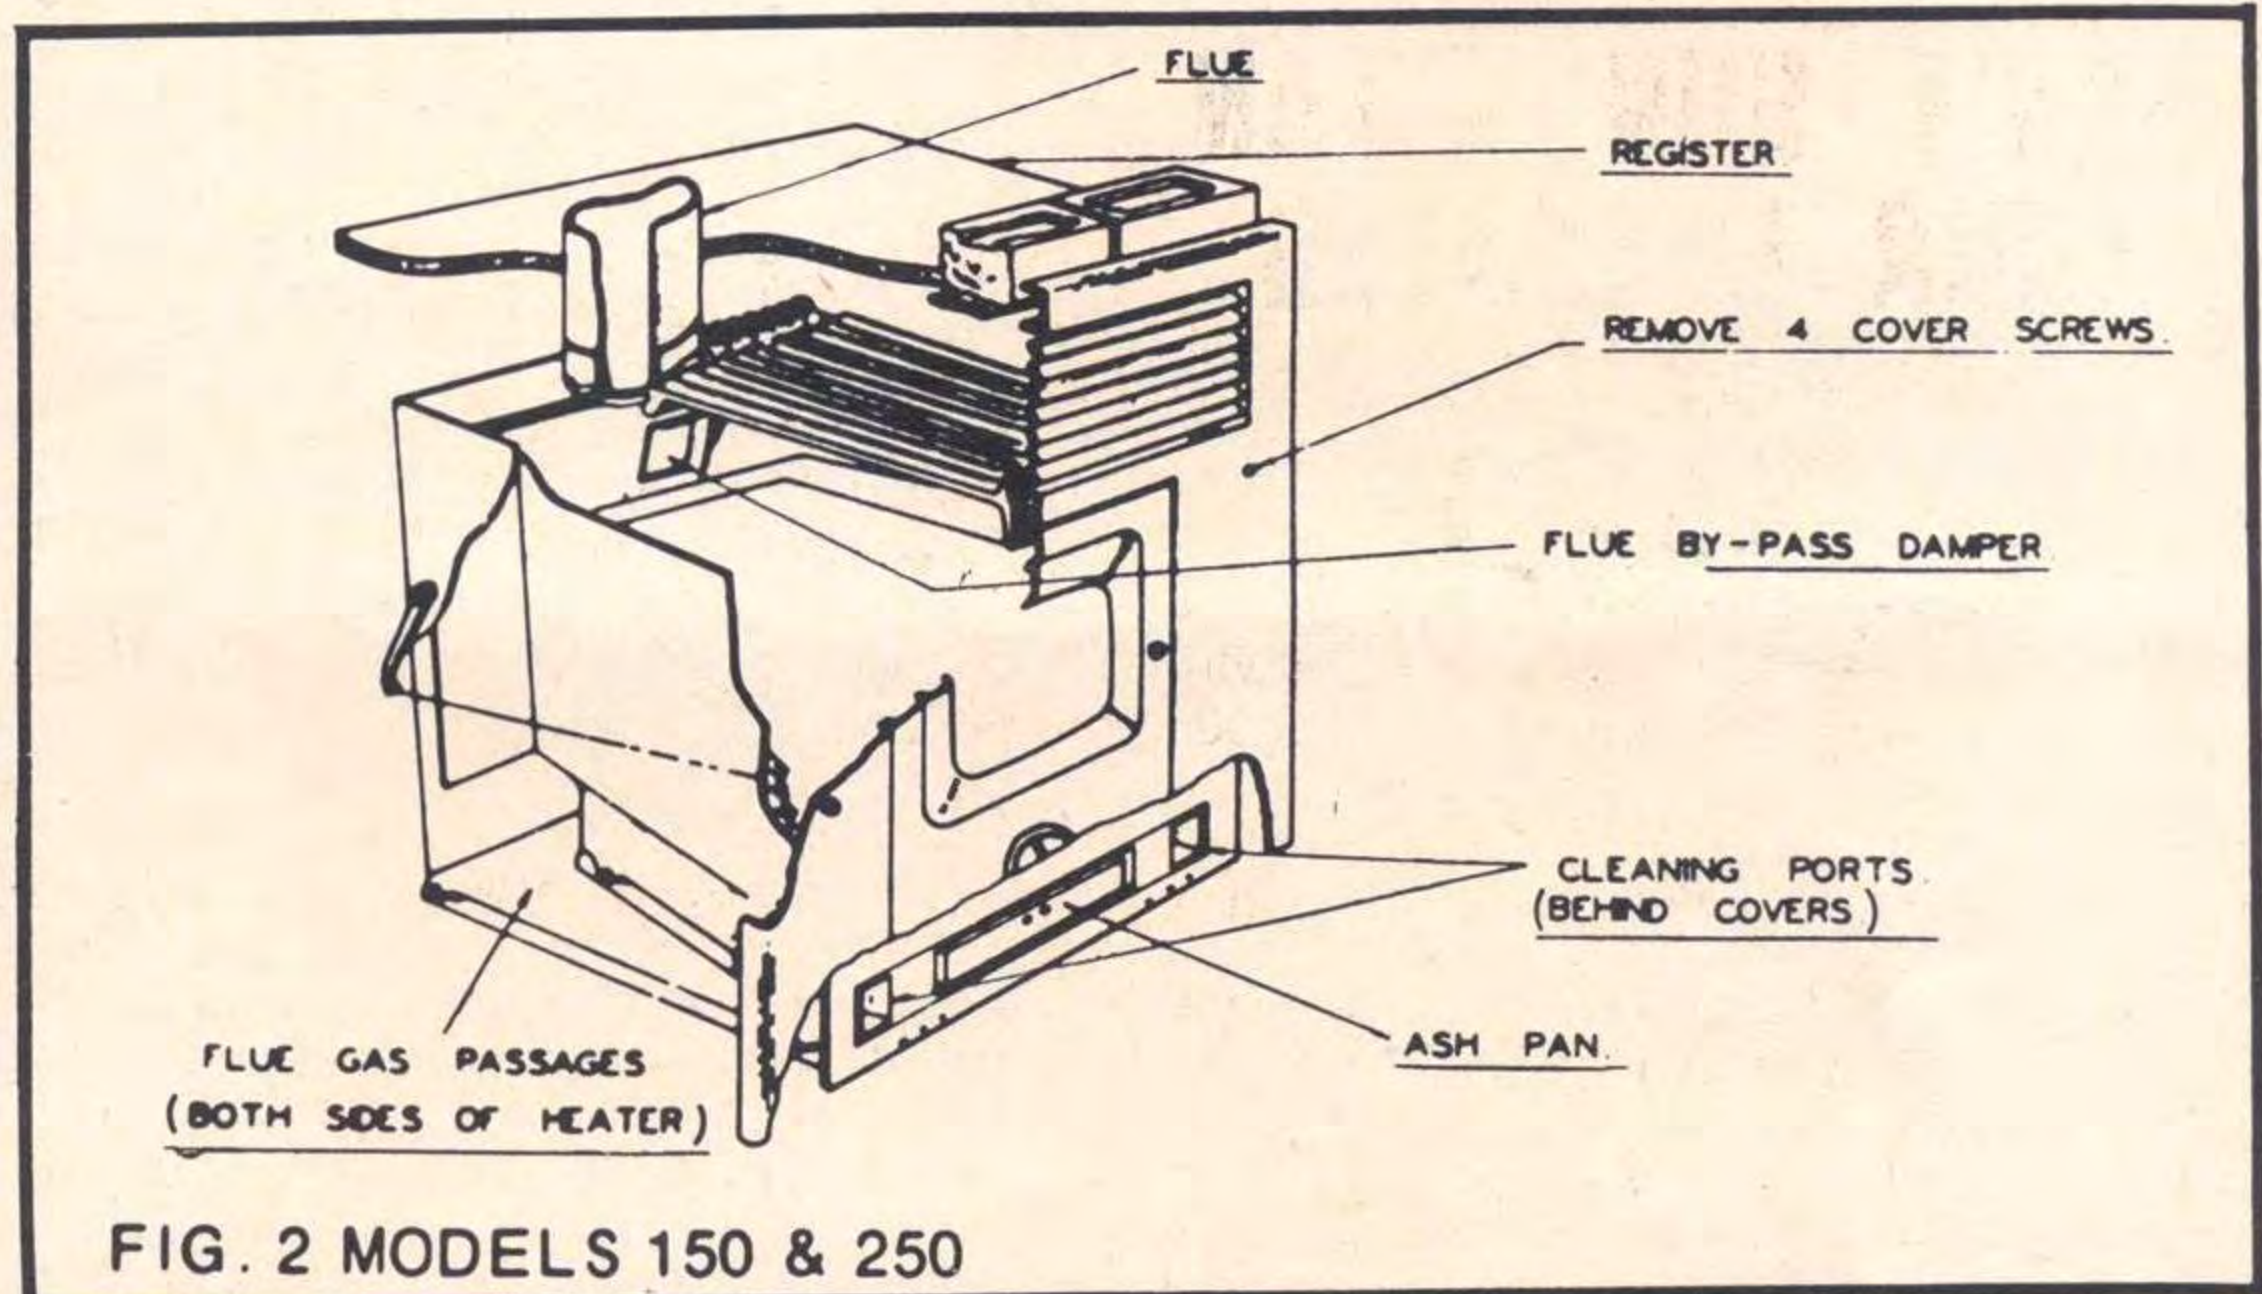

FIG. 2 MODELS 150 & 250
7. Replace the grate assembly, taking care to assemble the various parts correctly as shown in Figure 2. Make sure that the riddler bar engages with the round hole in the moving grate.
Models 150, 250 (Fig. 2)